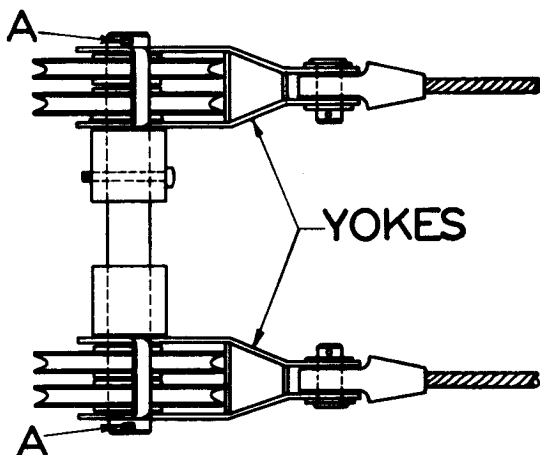

FIG. 10
With mast type suspension, the pin at the top of the mast is assembled with four small sheaves and the pendant yokes as shown in Fig. 10. For removal or installation of the suspension sheaves take out the blank bolts "A" to permit sliding the yokes off the ends of the shaft.
7. For mast or pendant suspension, place the four loops of the shovel suspension rope around the suspension sheaves and assemble the sheaves on the mast pin or pendant bridle as shown in Fig 10 and 11. For continuous suspension, reeve the new suspension rope between A-frame and boom point sheaves as described in Section V.